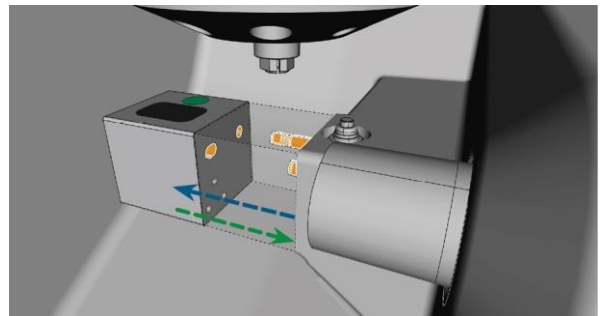

FIG. 46 – EXCHANGING THE TOOL MAGAZINE (TOOL MAGAZINE HOLDER AND HOLES IN THE TOOL MAGAZINE MARKED ORANGE)
3. If an incorrect tool magazine is mounted, remove this magazine by pulling it off the tool magazine holder (Fig. 46 – on the previous page, blue arrow).
6. Plug the tool magazine onto the tool magazine holder (Fig. 46 – on page 43, green arrow):